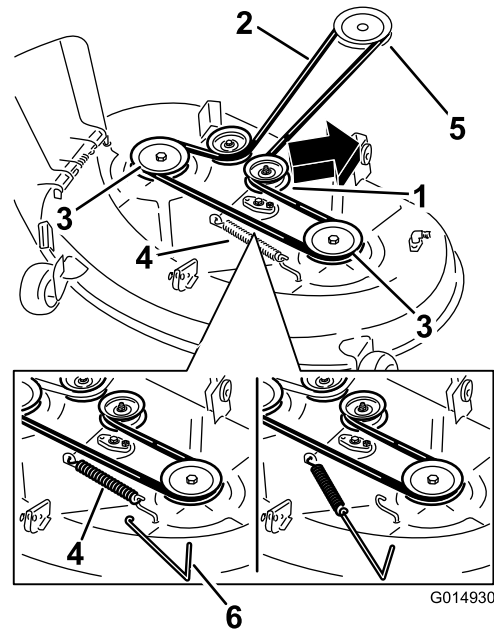

Figure 61
7. Using a spring-removal tool, install the idler spring over the deck hook, and place tension on the idler pulley and mower belt (Figure 61).